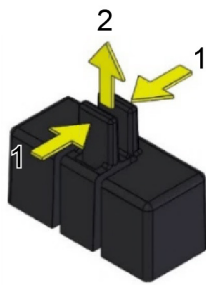

Fig. 51: Removing the end caps
- Unused connectors on the system board are protected by caps. To retrofit a module, first remove the cap. Push the levers gently with pliers to release the latch and remove the cap easily (see fig. 51).